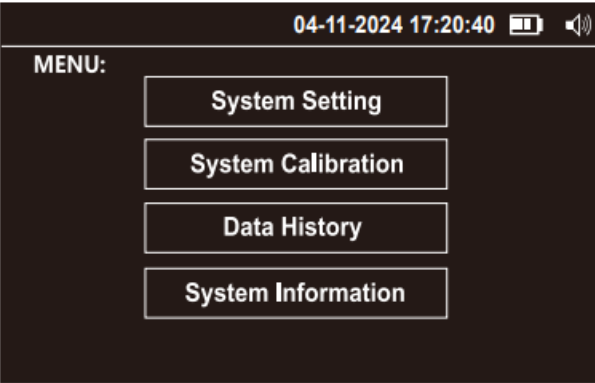

Fig.5
- Press  to confirm your choice to view or change settings (Fig.5).